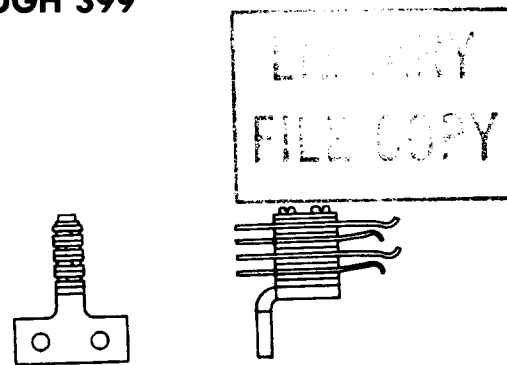

Fig. 1—350A Jack
2.01 **350A:** This multicontact jack (Fig. 1) is used with the 240A or similar-type plugs. This jack consists of a metal bracket on which there are mounted two pairs of contact springs insulated from each other. This jack is intended primarily for terminating test or switching talking lines in step-by-step machine switching systems. The 350A jack is intended to be mounted on shelf frame work used for mounting wired assemblies. The terminals are arranged for mechanically wrapped connections.